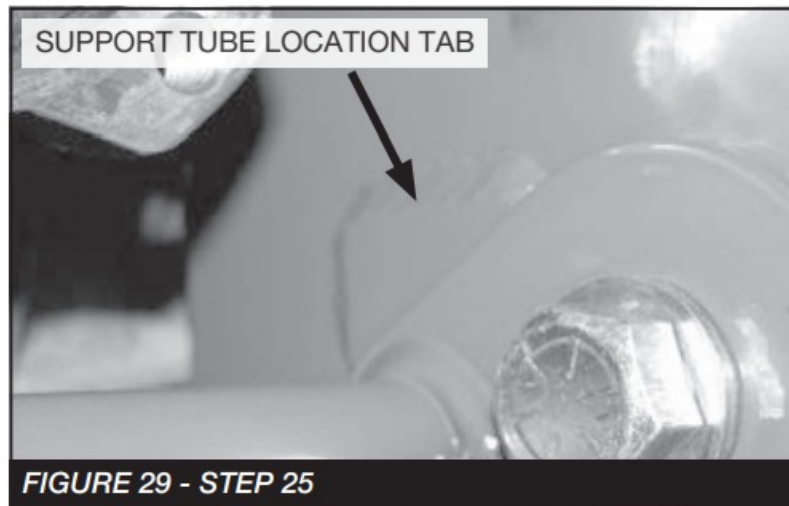

FIGURE 29 - STEP 25
25. Locate FT20284 Crossmember Support Tubes. Install the lower control arms into the new crossmembers using the 5/8" x 5" hardware in the front pocket. Position the control arms into the crossmember and insert only the front 5/8" bolt just so that it is through the arm. Position the Support tube between the cross members and rotate them up to the locating tabs on the crossmember. Install 5/8" x 5 3/4" hardware in the rear pocket and the front bolt with hardware. Leave loose. SEE FIGURE 29